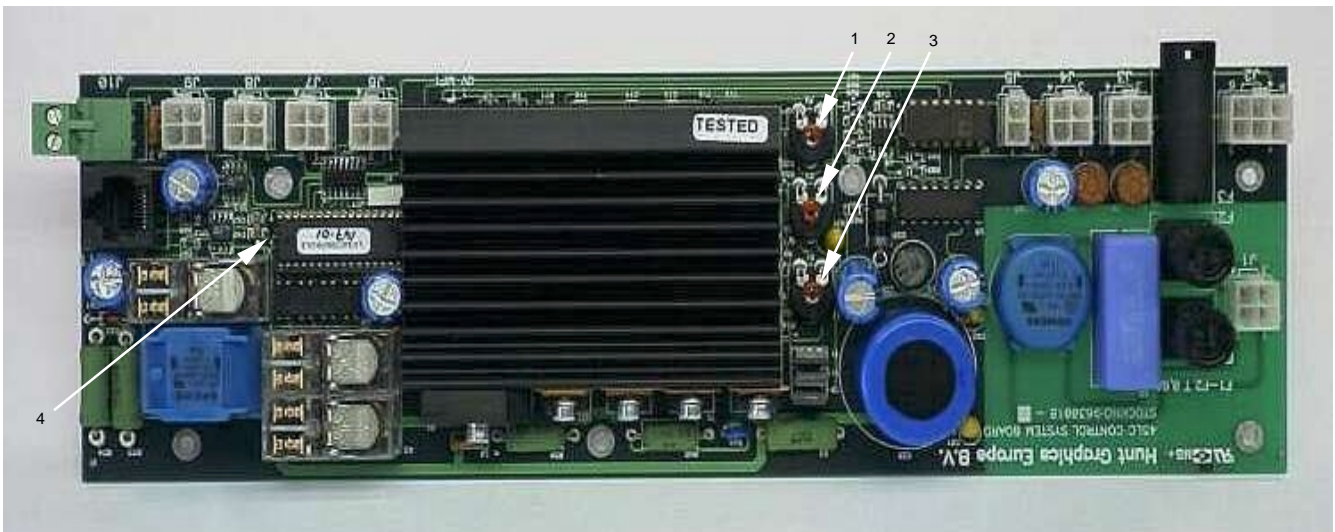

fig. 15
**Never change the settings of the three potmeters, marked 1, 2 and 3 in figure 15.**
1. See figure 15. Arrow #4 points to the processor (it usually has a sticker showing the software version). Carefully remove it using the IC extractor.